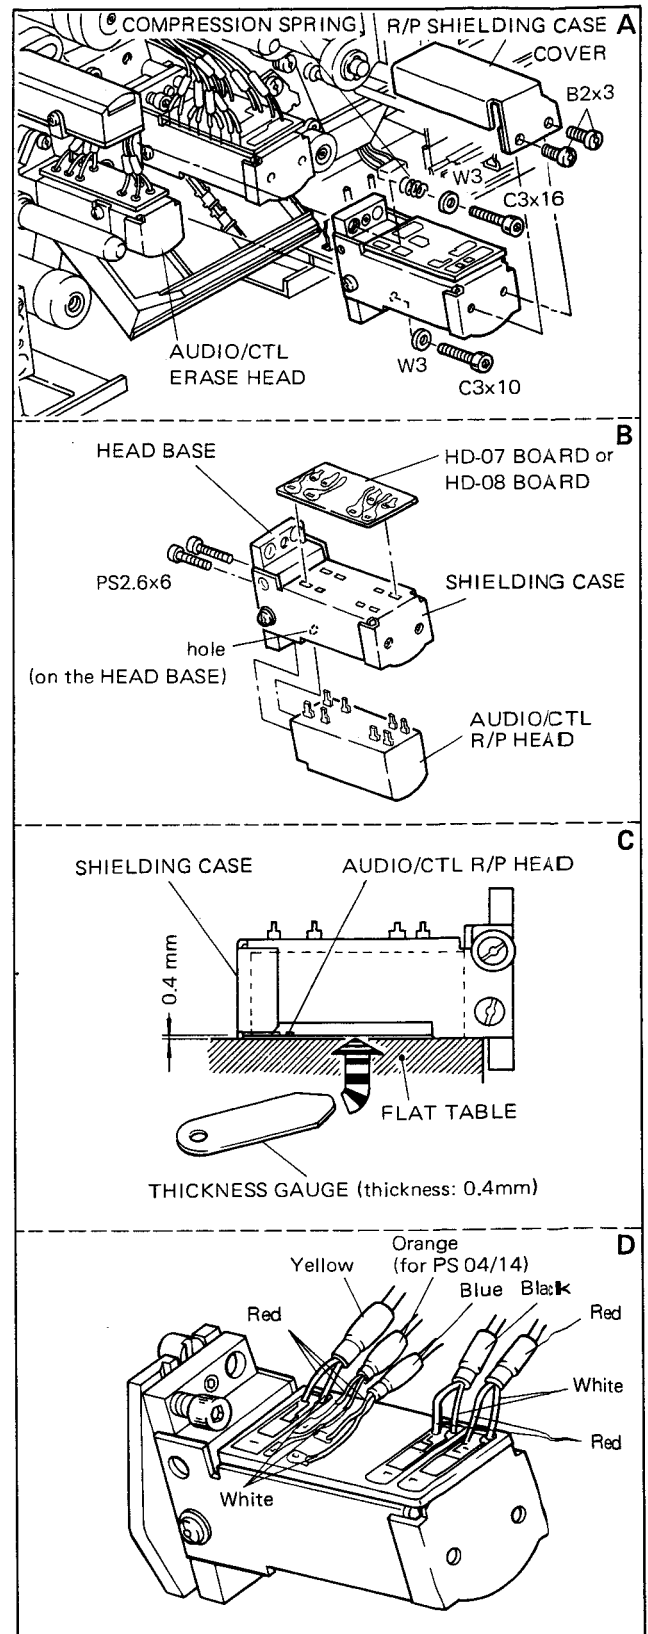

Fig. 3-56. Audio/CTL R/P Head Replacement
3. Remove the two screws (C3×16 and C3×10) shown in Fig. 3-56-A, and remove the head assembly.
Note: When the shielding case had been removed, fix shielding case to the head base lightly and place the head assembly as shown in Fig. 3-56-C onto a flat table, insert a thickness gauge with a thickness of 0.4 mm between the head and the flat table, depress the shielding case lightly, and tighten the previously lightly tightened screws securely.
8. Install the head assembly so that the hole shown in Fig. 3-56-B is placed onto the pin on the head table.
9. Solder the leads to the head referring to Fig. 3-56-D.